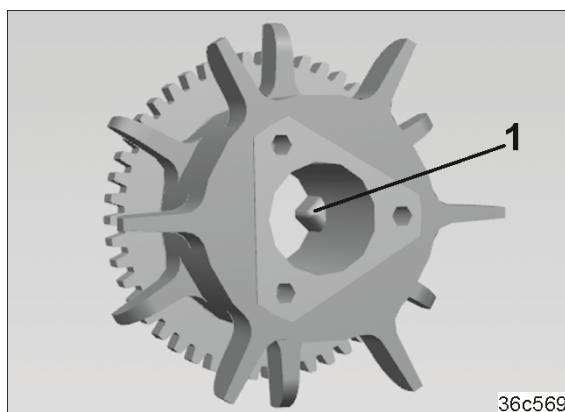

Fig. 253
9. Remove the triangular carriers (Fig. 253/1) of the bean seed metering wheels for those bean seed metering wheels that are to be switched off later on to create the tramlines.
The triangular carriers (Fig. 253/1) of the other bean seed metering wheels grip into the recess on the seeding shaft.